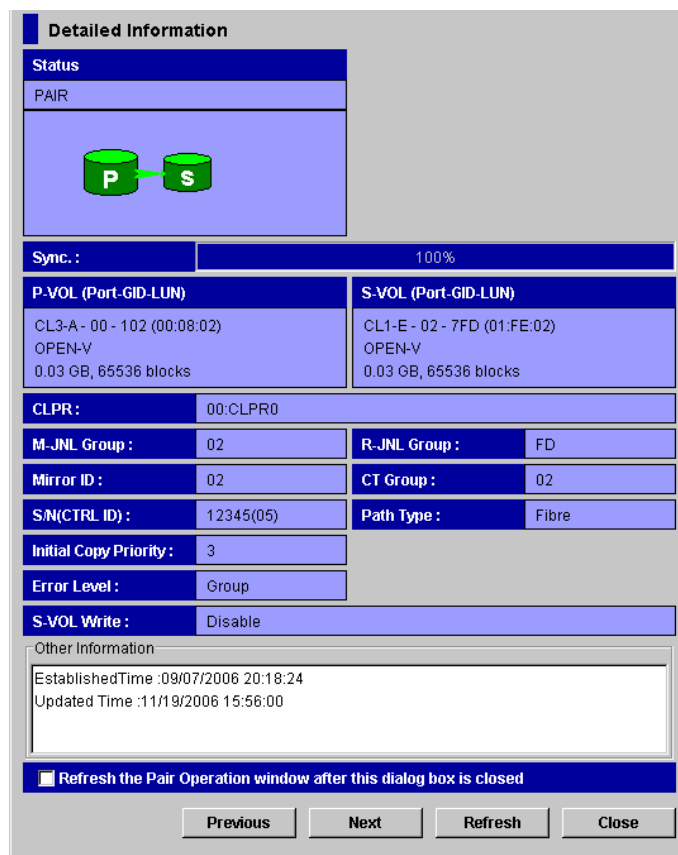

Figure 7-4 Detailed Information Window
16. To monitor the progress of the paircreate operation(s), click **File, Refresh** on the menu bar of the Storage Navigator main window to update the information in the list, or use the Detailed Information window (see Figure 7-4) to monitor the detailed status of each pair.
4. In the Detailed Information window (Figure 7-4), view detailed information about the pair.
Caution: If a failure in the initial copy operation causes the volume pair to be split, **Sync.** displays nothing. If a failure occurs in the initial copy operation, the Detailed Information window (Figure 7-4) displays the phrase "Initial copy failed".